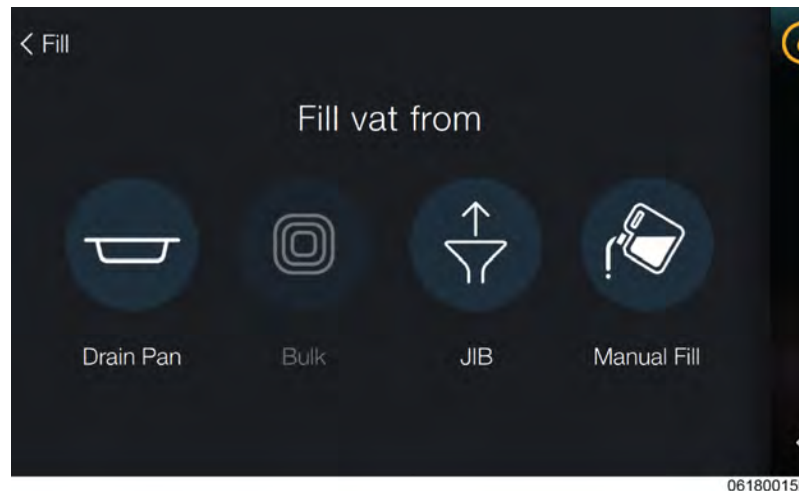

Figure 5-7 Fill Vat
- **Cart** - Tap **Cart** then remove the empty drain pan. Open the lid on the ODS (available separately) and insert it under the fryer ensuring that the drain spout aligns with the opening on the ODS. Tap **Ready** once installed. Once oil has finished draining, tap **Complete**. Roll the ODS out from under the fryer. Close and latch the lid to transport. Select from **Drain Pan**, **Bulk**, or **Manual Fill** to refill the vat, see Figure 5-7 Fill Vat, page 43 for an understanding of fill indicators. Select **Done** when finished.
The Fill Vat option provides four options to fill the vat with oil, see Figure 5-7 Fill Vat, page 43. Tap the desired fill method icon and follow the prompts to fill the vat with oil. The four fill options are as follows:
- **JIB** - Tap **JIB** then tap and hold **Fill** to fill the vat from the JIB, see Figure 5-7 Fill Vat, page 43 for an understanding of fill indicators. Select **Done** when finished.
- **Manual Fill** - Manually pour oil from a JIB into the vat. Tap **Done** when filled, see Figure 5-7 Fill Vat, page 43 for an understanding of fill indicators.